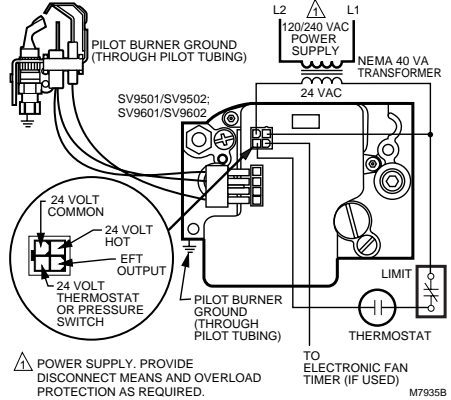
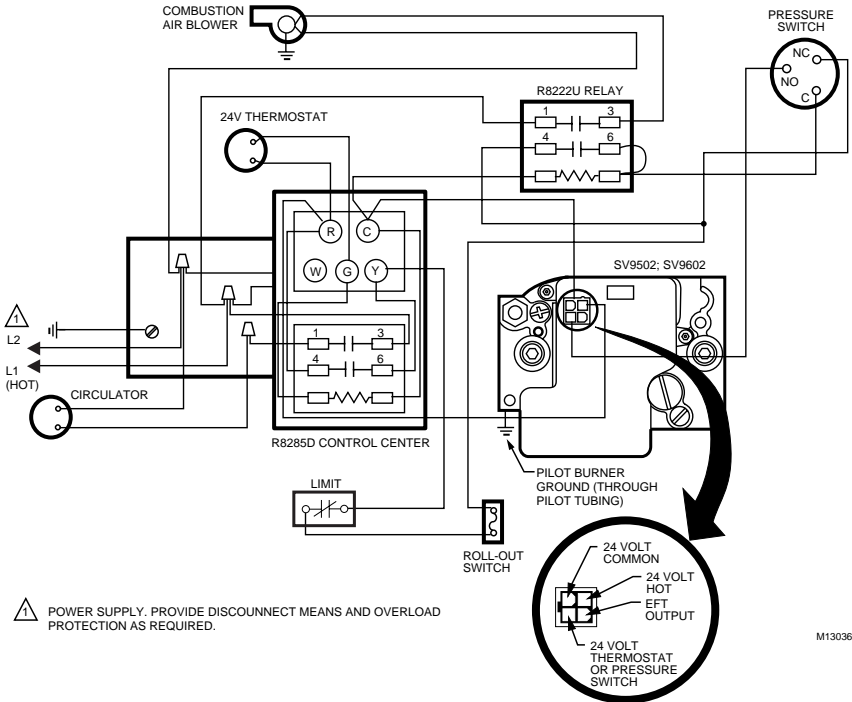

Fig. 8. SV9501/SV9502 basic wiring diagram.
Fig. 11. SV9502 typical wiring diagram in induced draft boiler application.
3. Connect the control circuit to the ignition system control, as shown in Fig. 8 through Fig. 11.